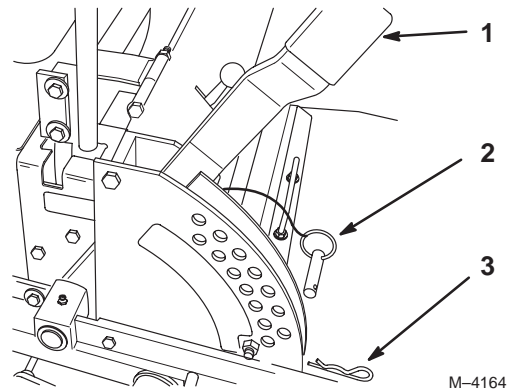

Figure 19
1. Raise the height-of-cut lever to the transport position (also the 5 inch [127 mm] cutting height position) (Fig. 19).
2. To adjust, remove the hairpin cotter and clevis pin from the height-of-cut bracket (Fig. 19).
3. Select the hole in the height-of-cut bracket corresponding to the height-of-cut desired, and insert the clevis pin (Fig. 19).
4. Secure the clevis pin with the hairpin cotter (Fig. 19).